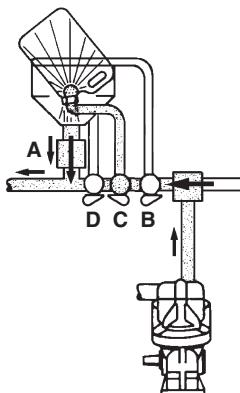

Fig 25
- 7 Open the bottom valve of the filler (**A** Fig 25 & **A** Fig 22) and the chemical is transferred to the main tank.
8 If the chemical container is empty it can be flushed with the container flushing device. Place the container over the multi-hole nozzle and press after opening the container flush valve (**C** Fig 25 & **C** Fig 22).